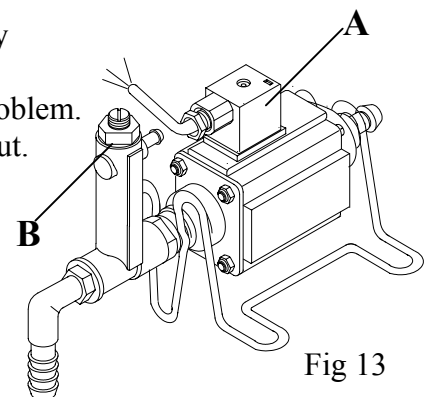

Fig 13
- Swap plugs over on pumps (A Fig 13) to check for circuit or pump fault.
- Check adjusting screw is open on pump. **NB ALWAYS** undo the lock nut (B Fig 13) before turning the screw.